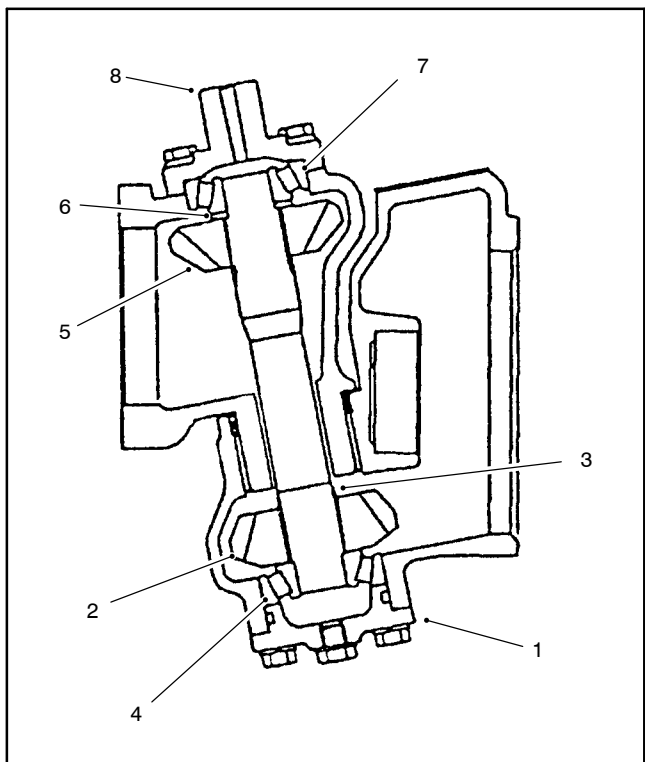

Figure 17
2. Install the lower bevel gear, and bevel gear shaft in the axle case cover. Coat a new O-ring with grease and install the axle case cover (Fig. 17). Tighten cover screws from 17 to 20 ft-lb (23 to 27 N-m).
3. Slide the bevel gear case over the bevel gear shaft and install the bevel gear and collar. Make sure the bevel gear shaft is completely seated in the upper and lower bearings (Fig. 17).